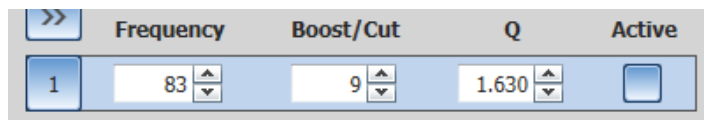
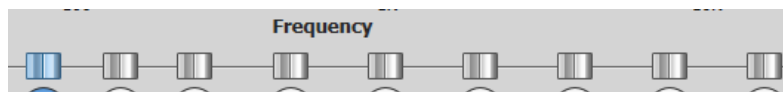

Figure 42. Filter Menu
Figure 43. Frequency Handles
1. In the **Filter** dialog box, select the filter to be modified. To do so, either click the filter number at the left of the **Filter** menu (figure 42) or click the appropriate **Frequency** handle below the graph (figure 43).